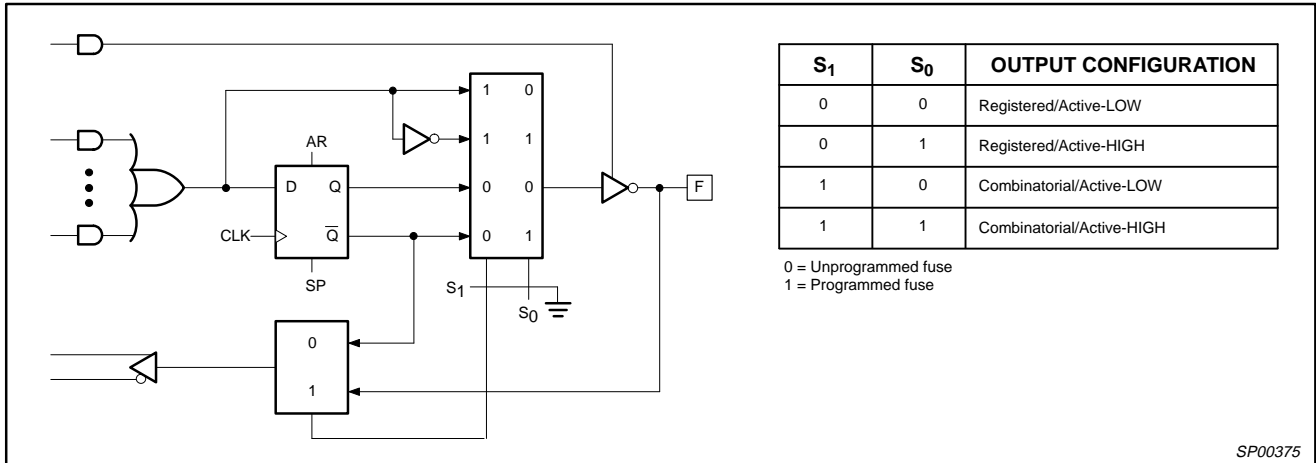

Figure 2. Output Macro Cell Logic Diagram
registered output or combinatorial I/O, Active-HIGH or Active-LOW (see Figure 2). The configuration choice is made according to the user's design specification and corresponding programming of the configuration bits  $S_0 - S_1$ . Multiplexer controls are connected to ground (0) through a programmable fuse link, selecting the "0" path through the multiplexer. Programming the fuse disconnects the control line from GND and it floats to  $V_{CC}$  (1), selecting the "1" path.